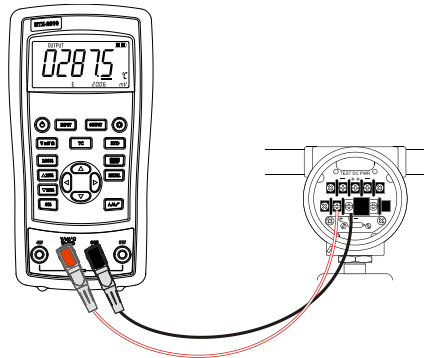

Figure 5.1-1
1. Connect thermocouple to the TC input/output plughole of calibrator as shown in Figure 5.1-1.